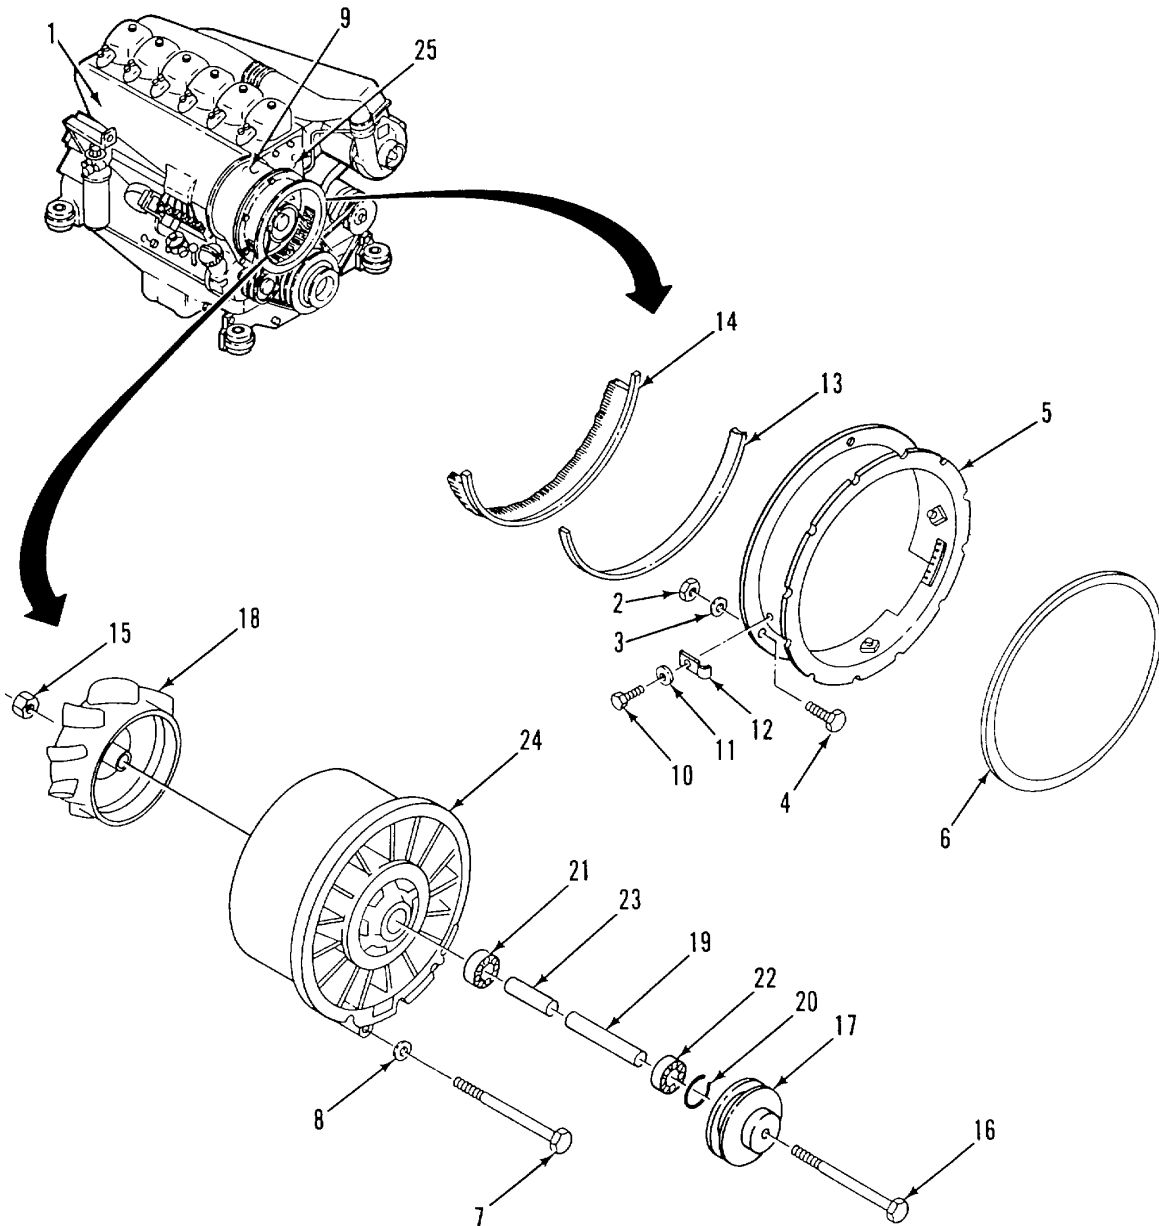

Figure 2-29. Cooling Blower Assembly
- a. **REMOVE.** (Figure 2-29)
- (1) Unlatch and remove the removable air cowling (1).
- (2) Remove nuts (2), flat washers (3), hex bolts (4), and the air feed (5).
- (3) Remove sealing gasket (6) from air feed (5).
- (4) Remove the hex bolts (7) and flat washers (8) holding cooling blower (9) to front cover (25) of engine.
- (5) Remove cooling blower (9).